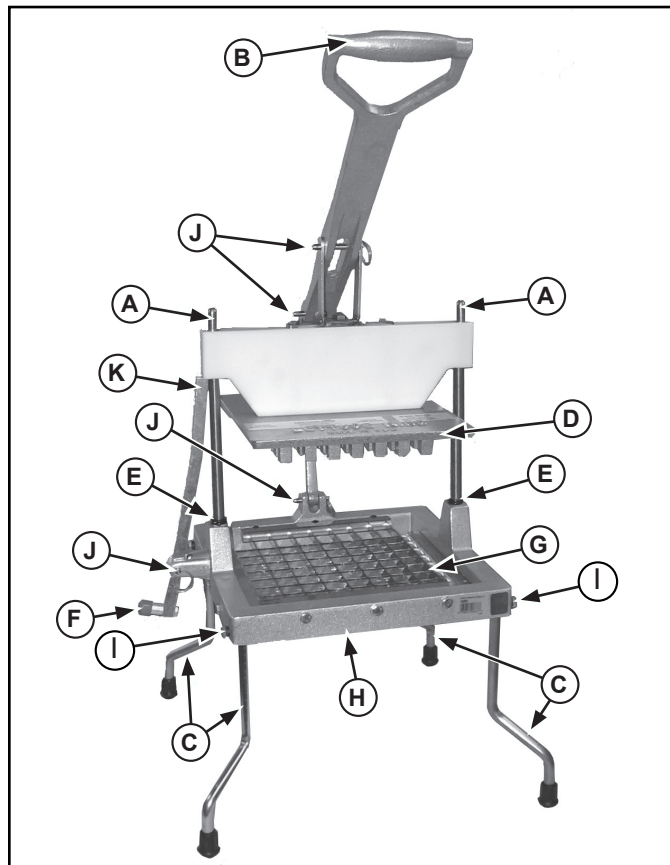

Figure 2. Features and Controls Lettuce King IV.
**Lettuce King IV:** Hold the handle (B), remove hand from the blade assembly area and place that hand on the lock lever (F). Push lock lever (F) in to release the lock arm from the locked position. See Figure 2.